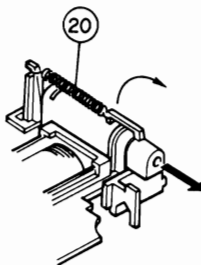

Figure 10
2. Remove spring B (20) and gently remove the lifter arm as shown in Figure 10.